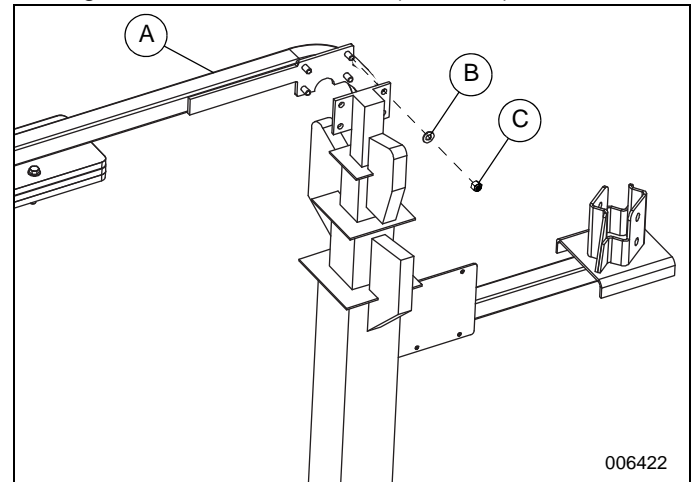

Figure 6. Mounting Weldment Installation
1. See Figure 6. Install mounting weldment (A) to mast. Tighten hardware to 20 ft-lb (27.2 Nm).